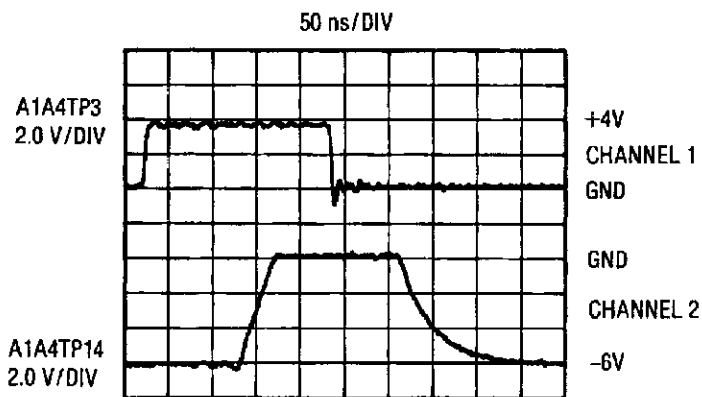

Figure 8-57. Pulse Driver Board Input Pulse and Sample Pulse
22. Connect channel 1 of the oscilloscope to A1A4TP3 and Channel 2 to A1A4TP14. Adjust the oscilloscope as shown in figure 8-57 and compare the oscilloscope display to the figure.